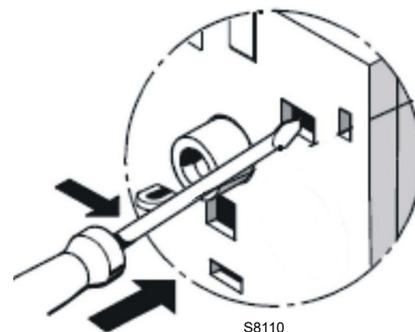

Fig. 34
- **Contact test NC (95-96) and NO (97-98)(Fig. 34)**